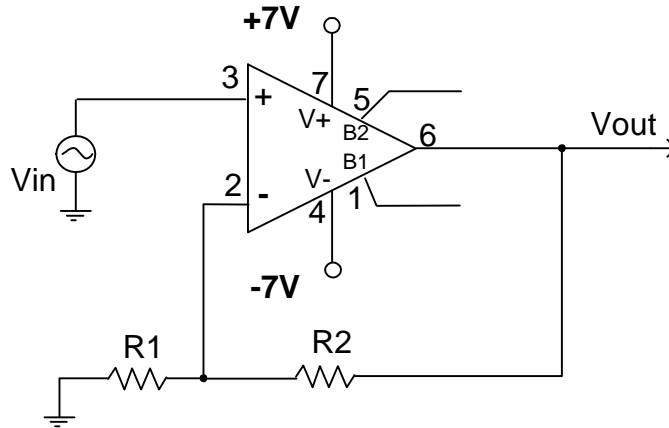

Fig. 5: Non inverting Amplifier configuration.
Assuming a finite GBW of  $\omega_t$ , frequency dependant gain of the non inverting amplifier shown in Fig. 5 is given by,
7. Consider a non inverting amplifier shown in Fig. 5. Assuming  $R_1=1K$ , find the value of the resistor  $R_2$  to get an amplifier with a DC gain of 101. Verify your design with Pspice AC simulations. You might ask your TA if you are not familiar with performing AC simulations using Pspice. What is the simulated -3 dB bandwidth of the amplifier? Repeat the Pspice AC simulations when the value of  $R_2$  is adjusted to obtain a gain of 51 and 201.